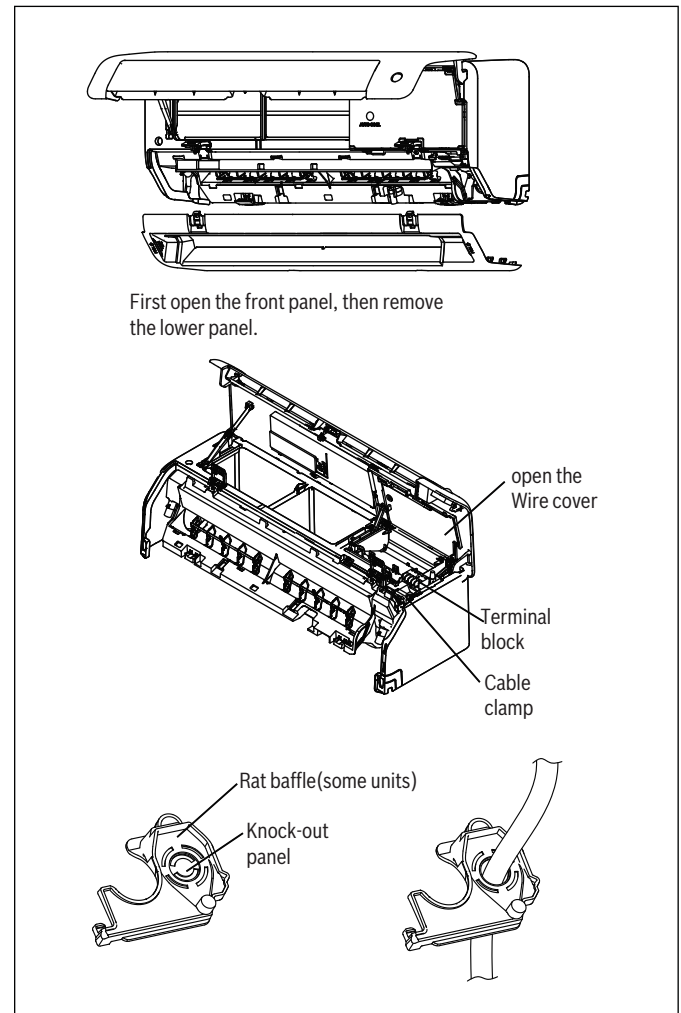

Figure 17
- Meets all spatial minimum requirements shown in Installation Space Requirements ( Figure 17)